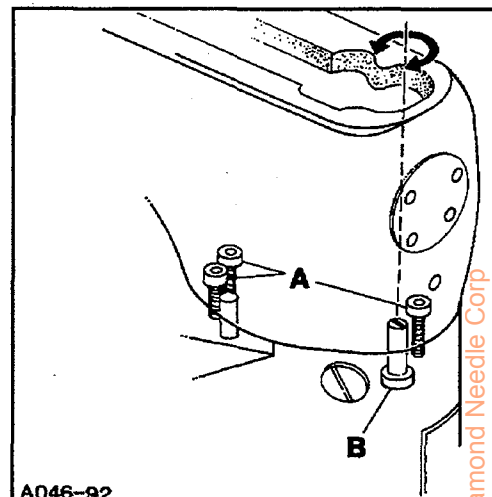

FIG. 5
Remove the top front cover and gasket from the main frame. Loosen cylinder holding screws (A, Fig. 5). Turn eccentric screw (B) clockwise or counterclockwise to move the cylinder so the needles are centered in the needle holes. Tighten screws (A) and recheck settings. Various components may have to be removed from the machine so cylinder holding screws (A) can be accessed.